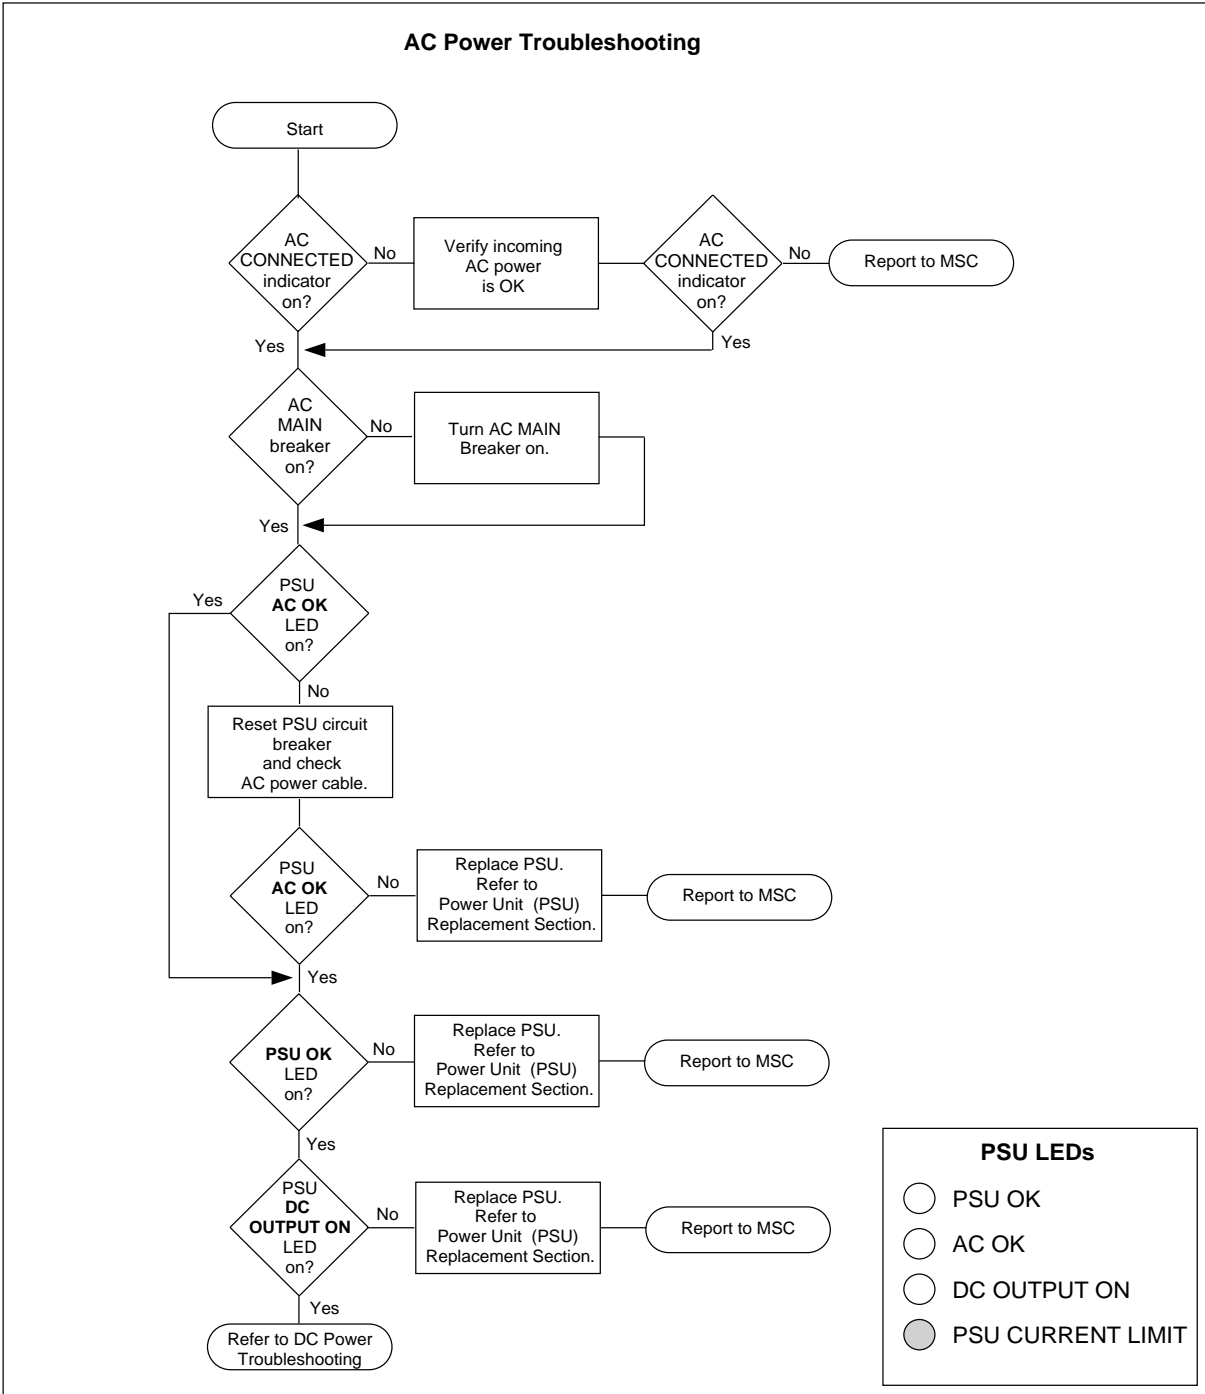
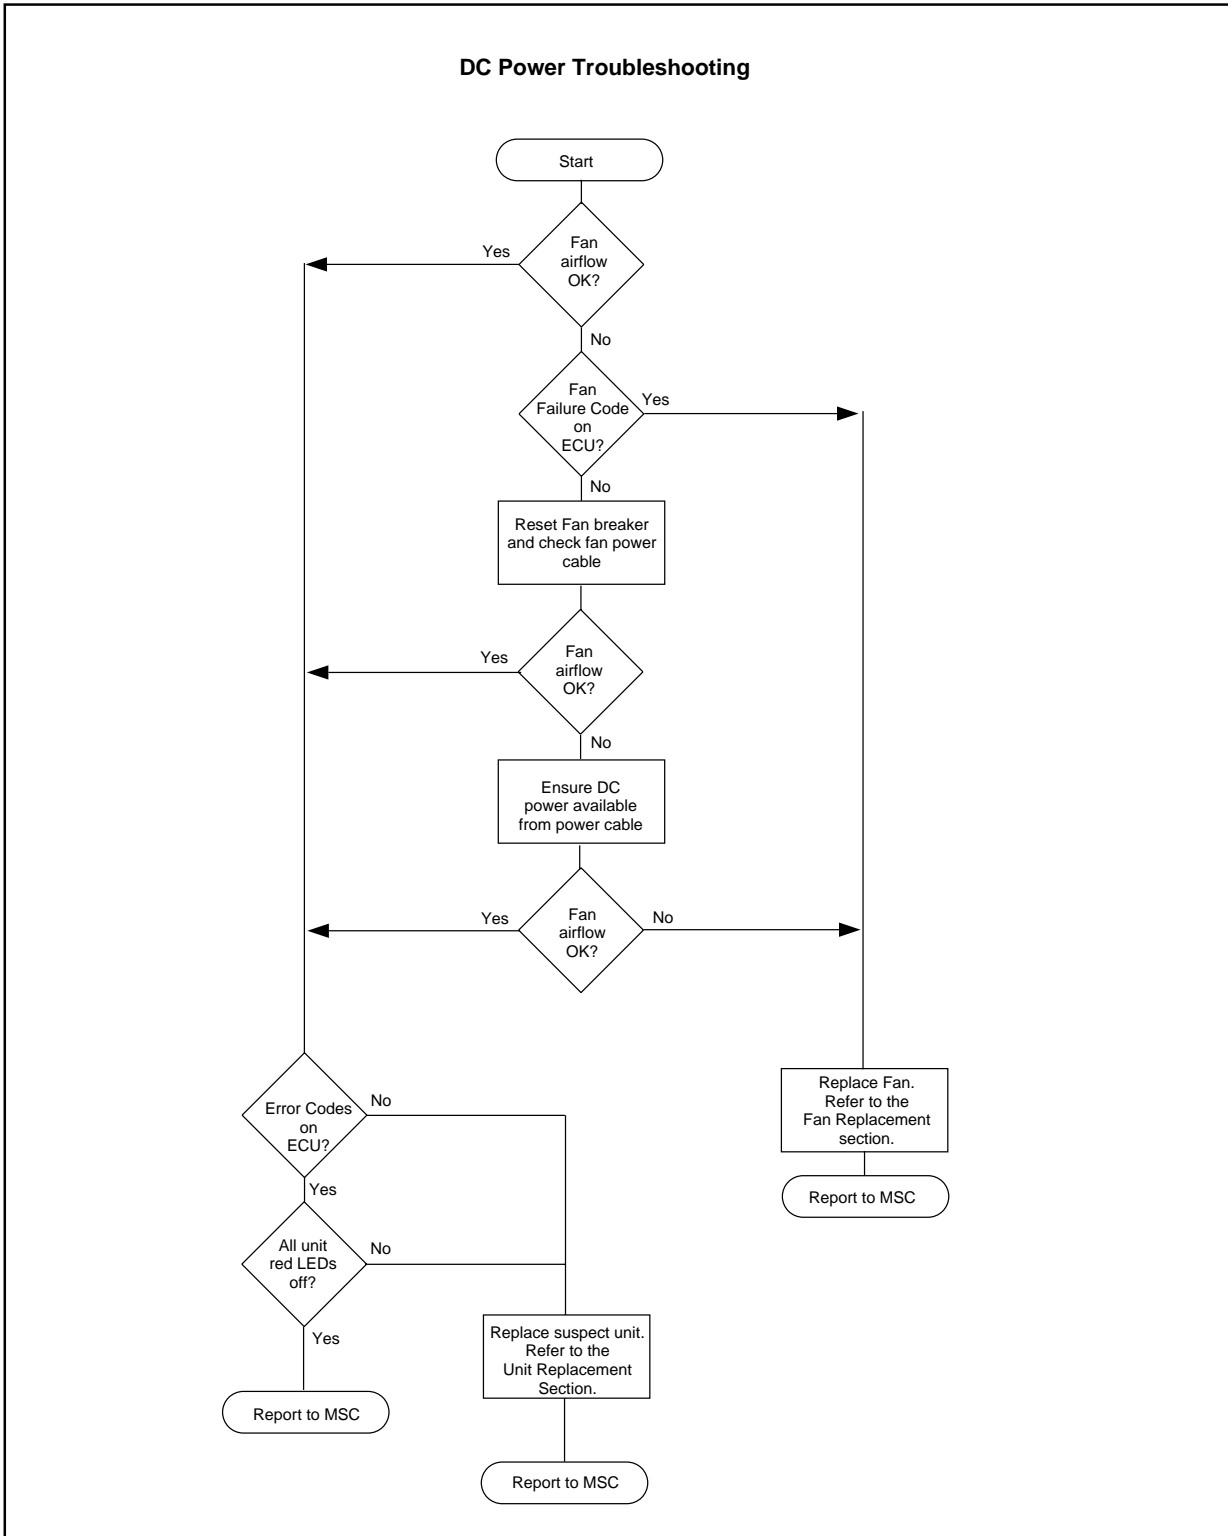

Figure 5-3. Troubleshooting Flowchart for AC Power Connection
Figure 5-4. Troubleshooting Flowchart for DC Power Connection
4. Follow the flowchart shown in Figure 5-3 on page 5-9 or Figure 5-4 on page 5-10 to identify a unit suspected to be faulty.